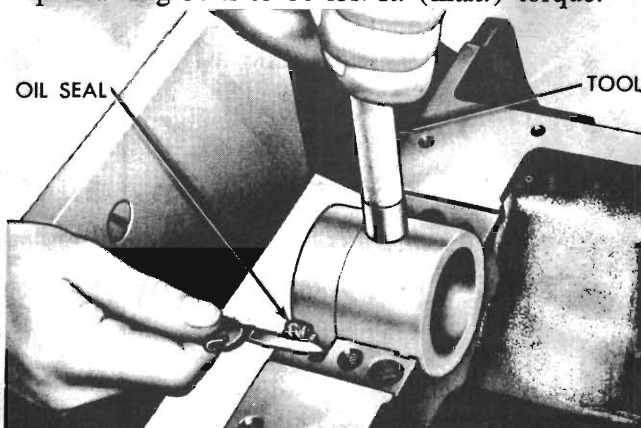

Fig. 47 - Trimming rear main bearing oil seal
(1) Install a new seal in retainer groove of the main bearing cap so that the ends protrude.
(2) Install bridge on tool and tap the seal down into the position until tool is seated.
(3) Trim off the portion of the seal that protrudes above the cap (Fig. 47).
(4) Apply a coat of Chrysler Parts Gasket Sealer (Red) to the block and No. 7 main bearing contact surfaces before re-installing the bearing cap.